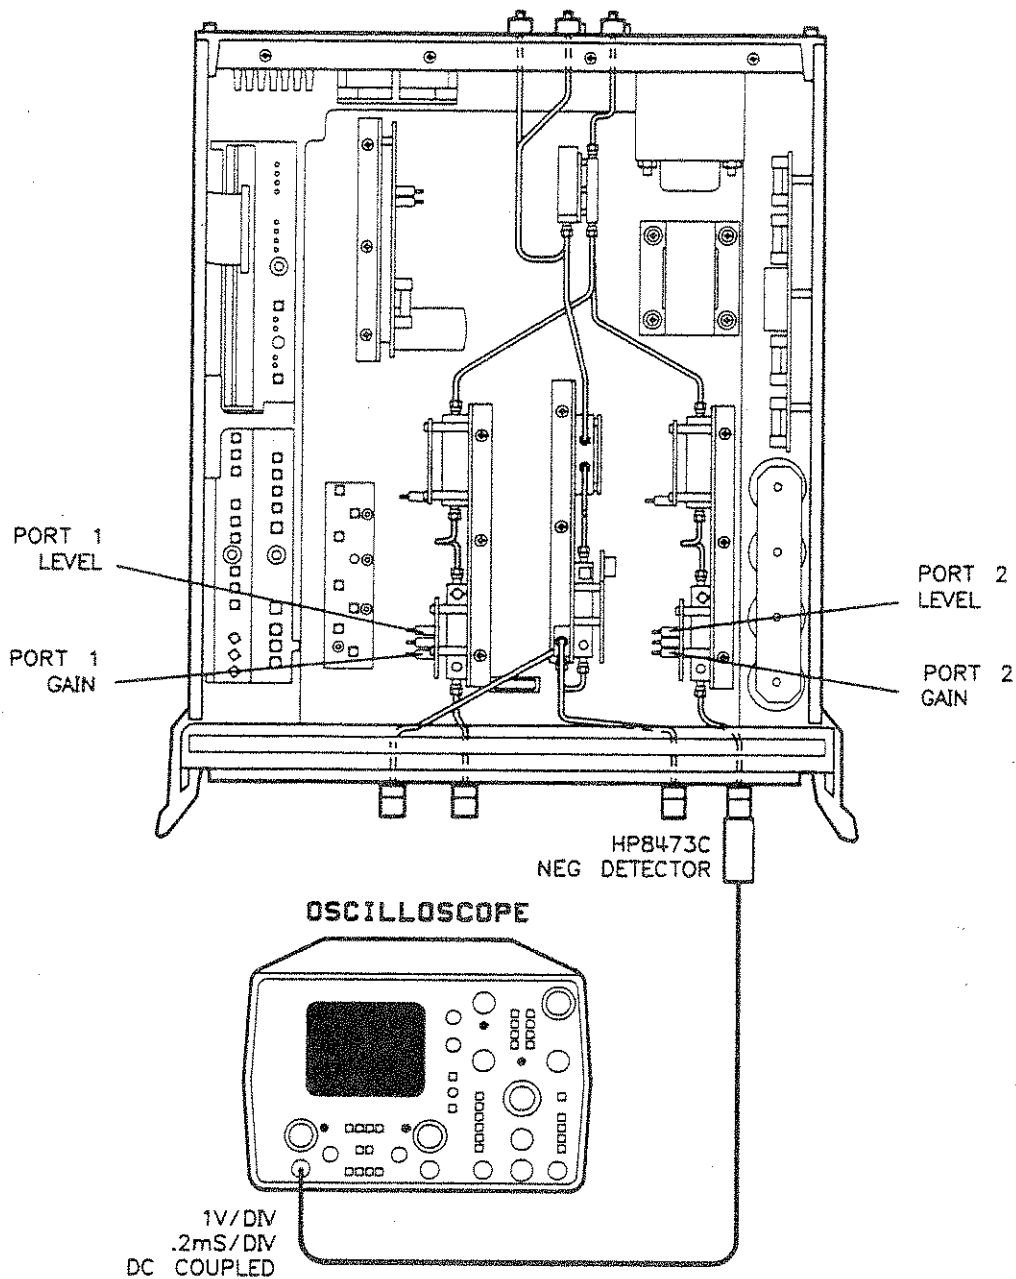

Figure 6-14. LO ALC Adjustment Points
3. Connect the oscilloscope and negative detector as shown in Figure 6-14. Turn the gain adjustment fully clockwise. Oscillations should be visible on the oscilloscope. Turn the gain adjustment counter clockwise until the oscillations just disappear, then turn three more complete revolutions. Recheck the user parameters in step 2 and then continue with step 4.